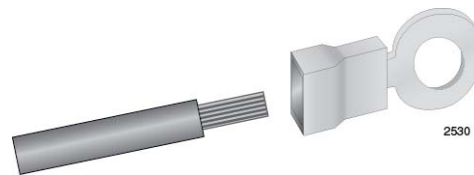

Figure 114. Attaching the Stranded Grounding Wire to the Grounding Terminal
2. Insert the grounding wire into the grounding terminal provided with the power supply and use a crimping tool to secure it to the grounding terminal. See Figure 114,